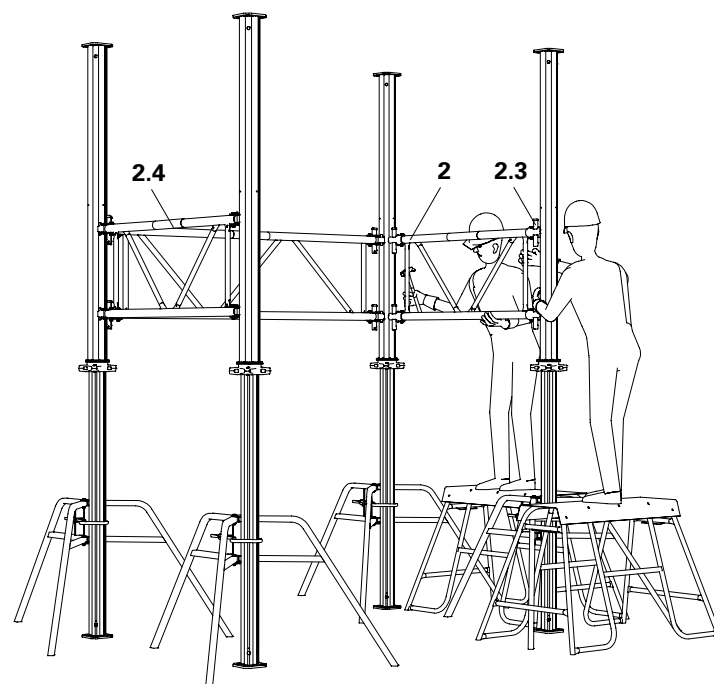

Fig. A4.02
- Securely fix the wedges (**2.3**) with a hammer blow from top to bottom. (Fig. A4.02)